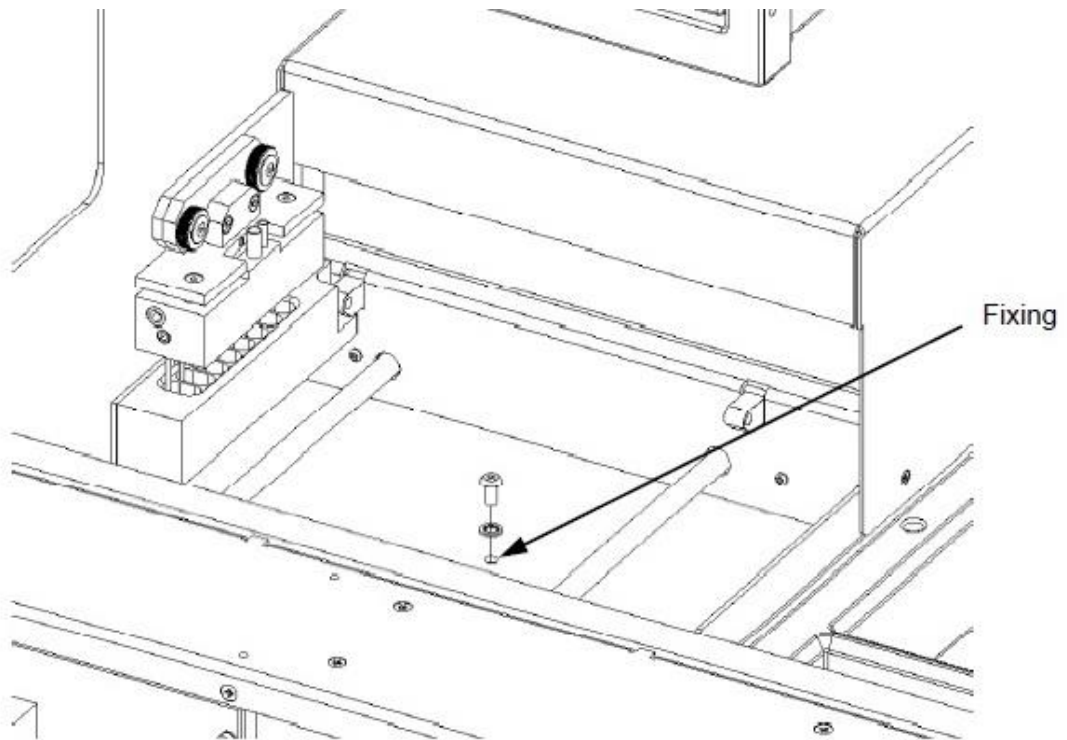

Figure AA-2: Fixing Screw for Trough
1. Remove the Trough by unscrewing the Fixing screw (Figure AA-2).